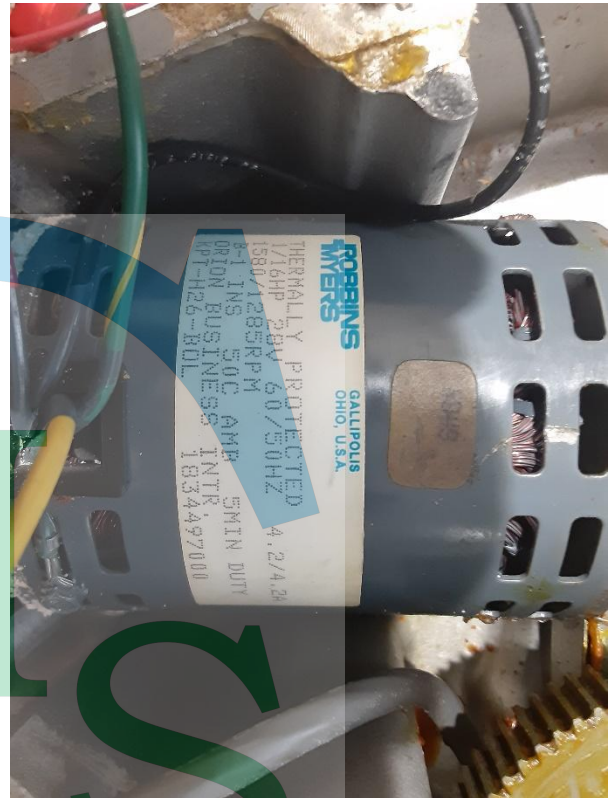

Figure 8 - Drive motor - note corrosion on end frame at left
- there was a considerable amount of corrosion to the motor aluminum end frame components and attaching hardware (Figure 8).